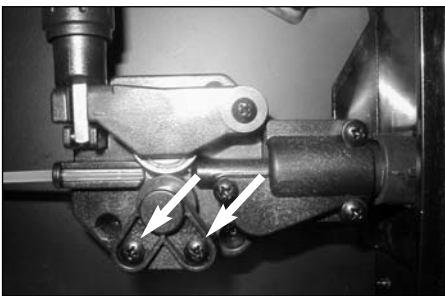

Figure 7 – Remove these two screws
3. Remove roller cover by removing two screws (see figure 7).